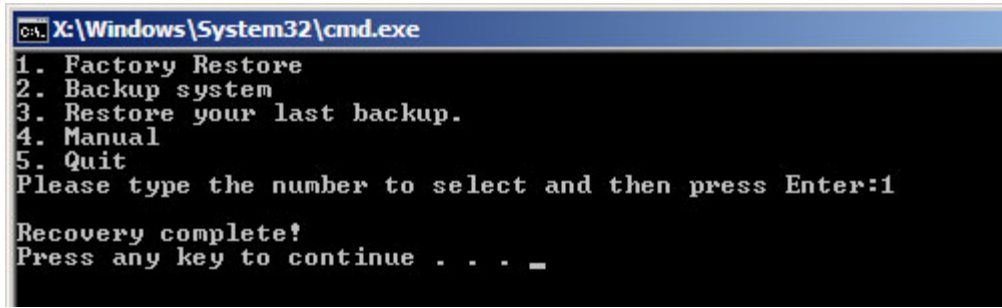

Figure B-35: Recovery Complete Window
**Step 3:** The screen shown in **Figure B-35** appears when completed. Press any key to reboot the system.